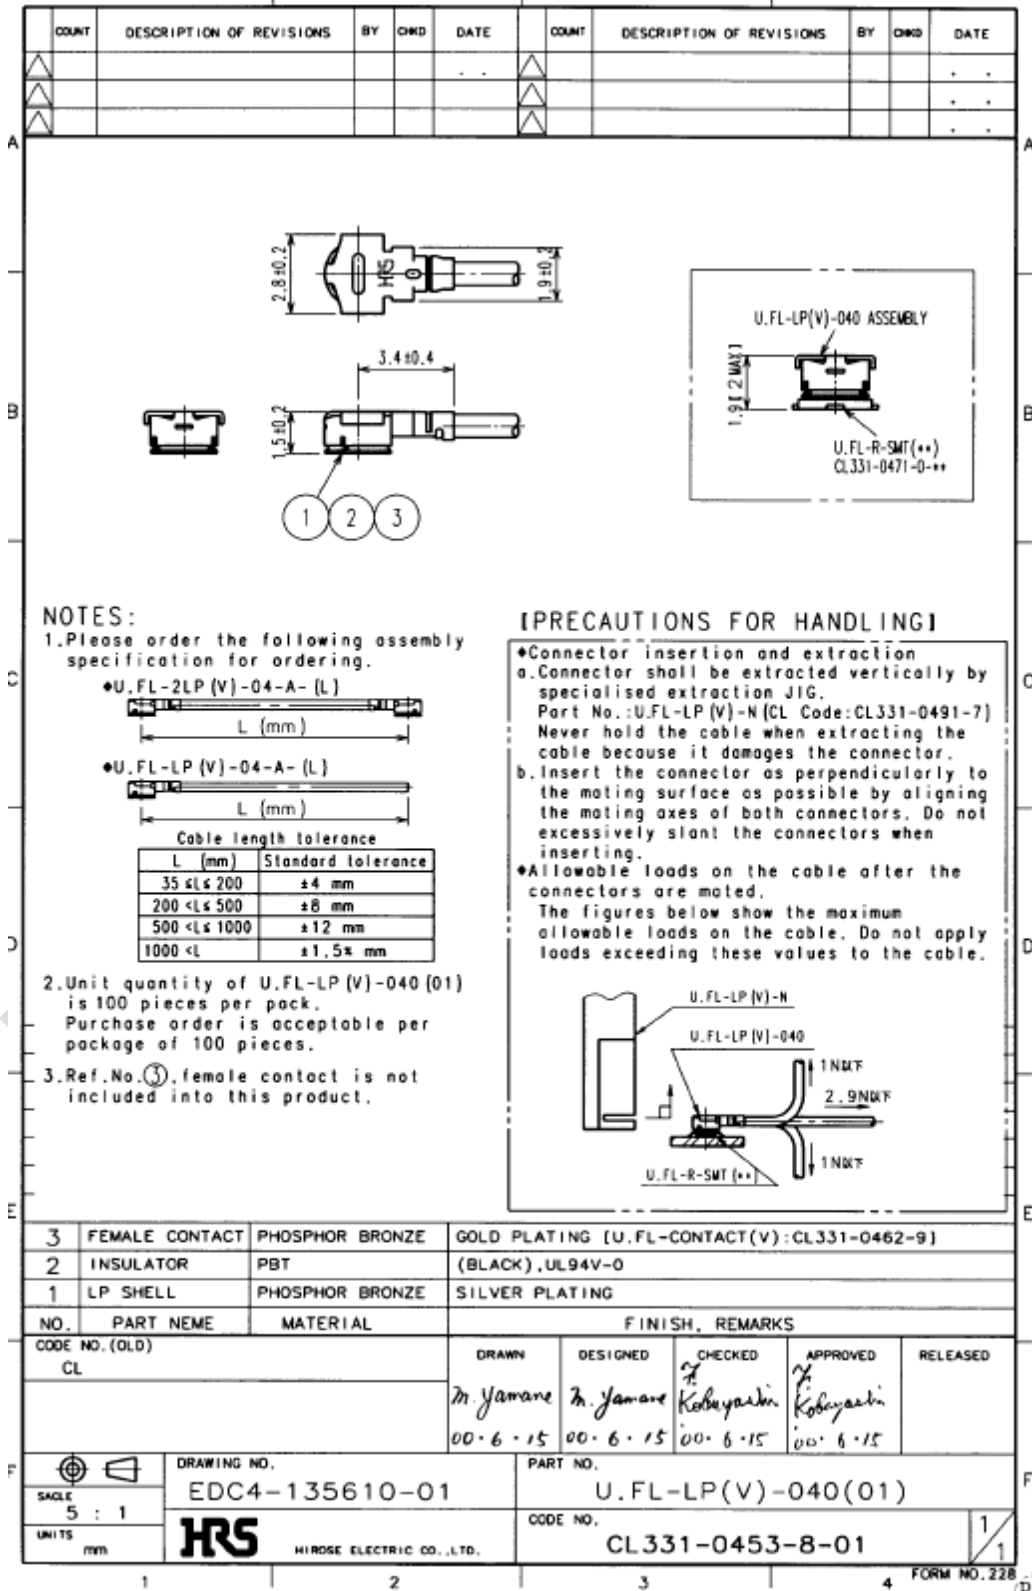

Figure 36: Specifications of U.FL-LP-(V)-040(01) plug
In addition to the connectors illustrated above, the U.FL-LP-(V)-040(01) version is offered as an extremely space saving solution. This plug is intended for use with extra fine cable (up to $\varnothing 0.81$ mm) and minimizes the mating height to 2 mm. See Figure 36 which shows the Hirose datasheet.